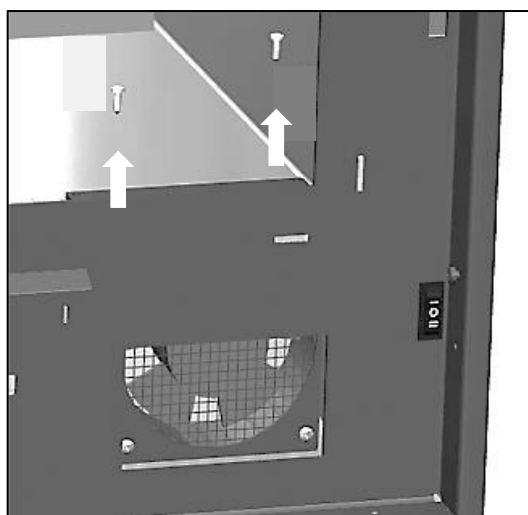
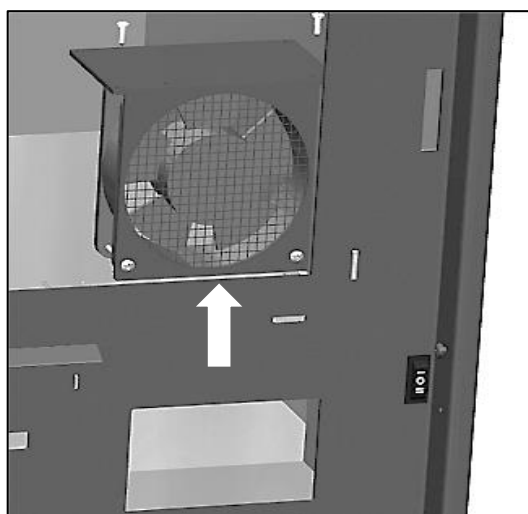

FIG. 4
FIG. 5
2. Loosen the 2 top screws that secure the fan assembly and remove it from its housing by pulling gently upwards. (Fig. 4 and Fig. 5).